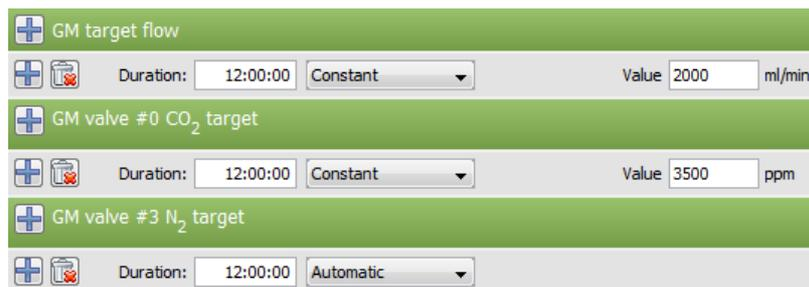

Fig. 34: Gas Mixer protocol in percent mode
- **Percents** – in this mode the absolute target flow must be set in protocol. The valve flows are specified as concentrations (in % or ppm). All valves must be configured in protocol, that means none can have empty protocol. At least one valve must be configured as “Automatic”. Automatic phase will compute valve flow based on target flow and other valves concentration. Or rather, the automatic valve concentration will be the remaining value such as sum of concentrations from all valves is 100%. See Fig. 34 for example of percent mode in protocol.